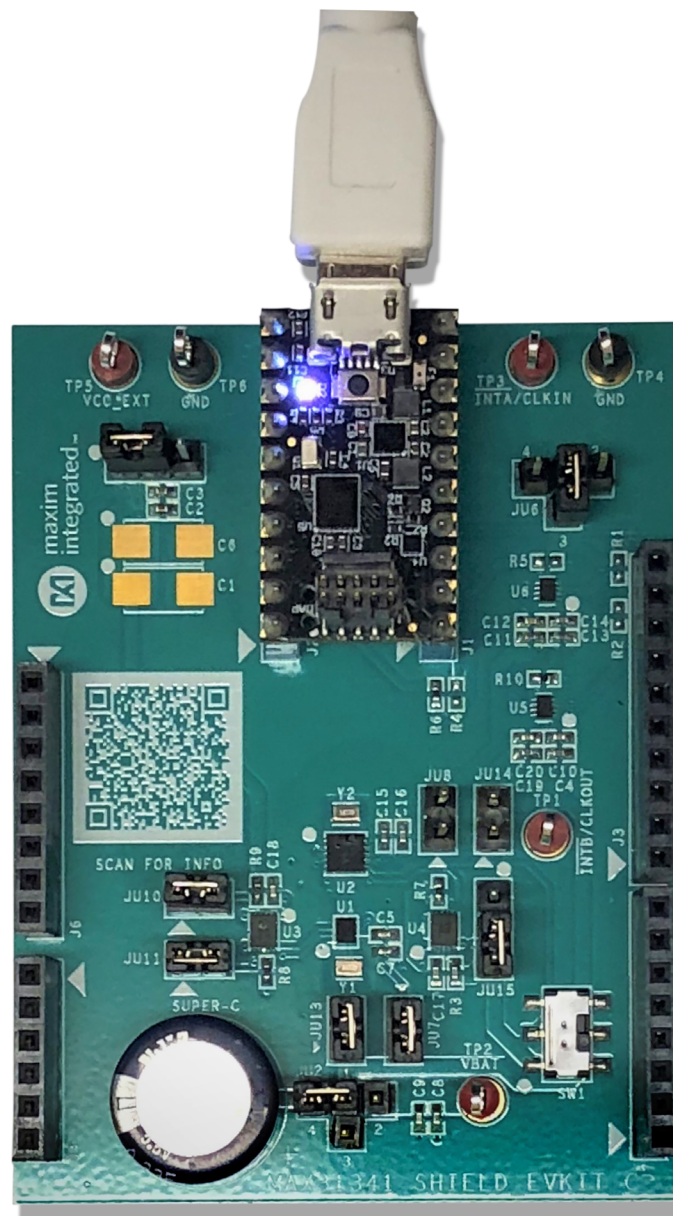

Figure 2. USB Connection
- 4) Connect the MAX32625PICO I2C circuit board to the EV kit at the location shown as DS3900 (Figure 2).